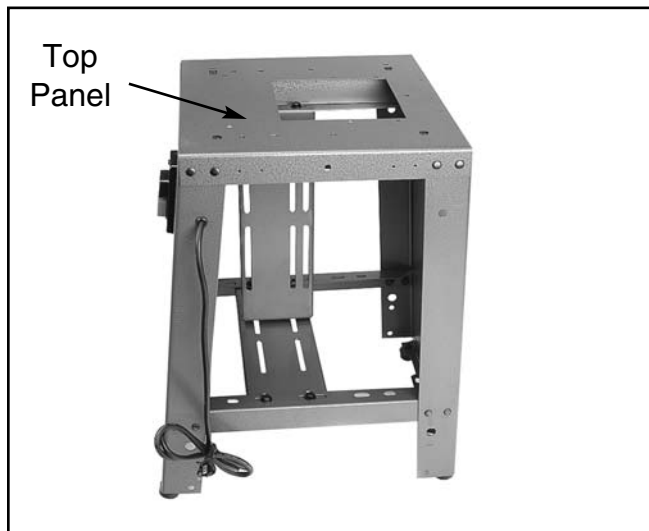

Figure 9. Install top panel.
7. Install the top panel using (10) $\frac{5}{16}$ "-18 x $\frac{1}{2}$ " carriage bolts, (10) flat washers and (10) hex nuts. It may be necessary to wiggle the panels a bit to line up the bolt holes. Finger tighten only. **See Figure 9.**